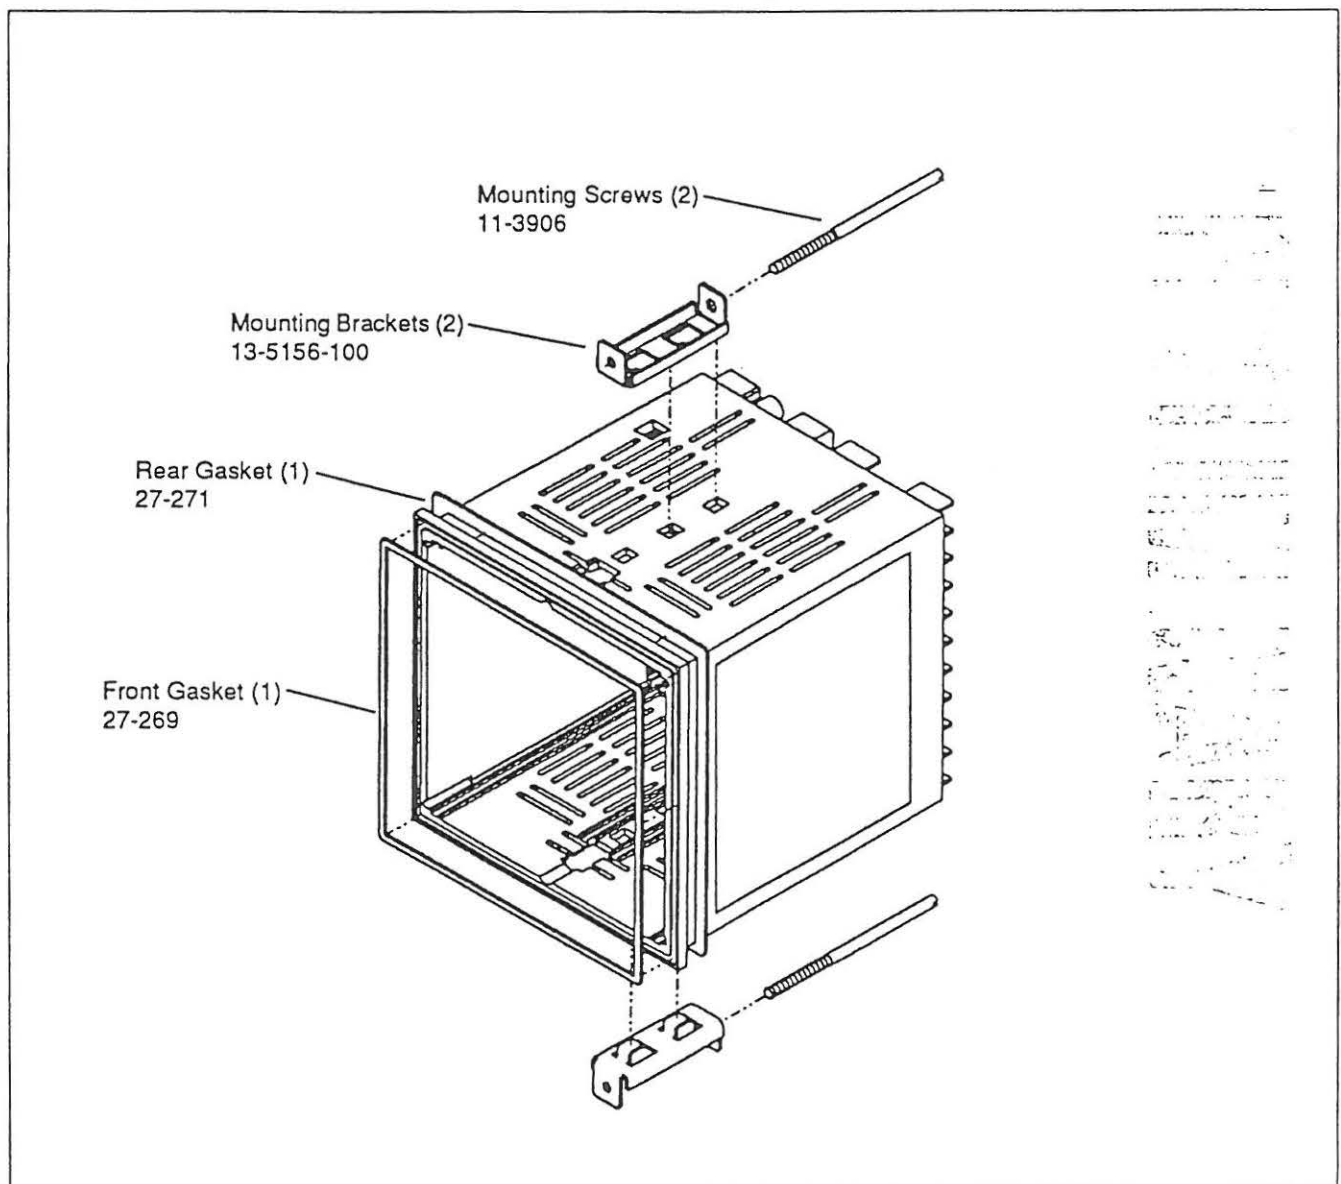

Figure 3.3 Mounting the Case
5. Start the mounting screws in the mounting brackets as shown in Figure 3.3.